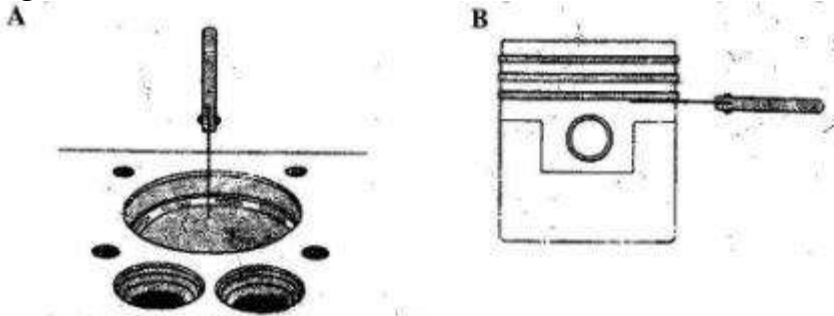

Figure 1
b. Figure 1 shows two measurements A and B performed as an engine component.